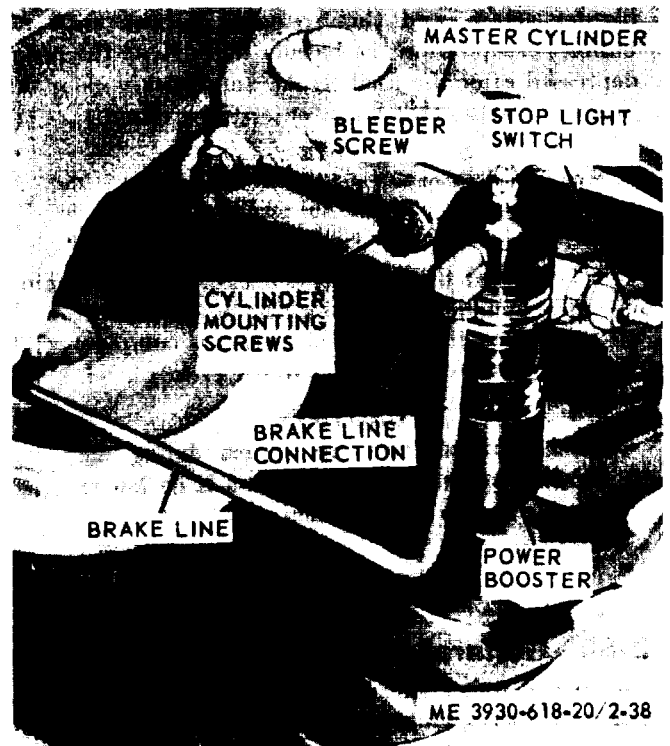

Figure 2-38. Brake master cylinder and brake power booster. installed view
*a. Removal.* Refer to figure 2-38 and remove the master cylinder assembly as follows :
(5) Remove the screws holding the master cylinder assembly to the inside of the frame and remove the cylinder.
*b. Removal.* Refer to figure 2-38 and remove the power booster as follows :
(1) Remove the floor plate.
(2) Disconnect the brake line at the power booster.
(3) Using an open-end wrench of the proper size, hold the connecting nipple to the master cylinder while removing the power booster.